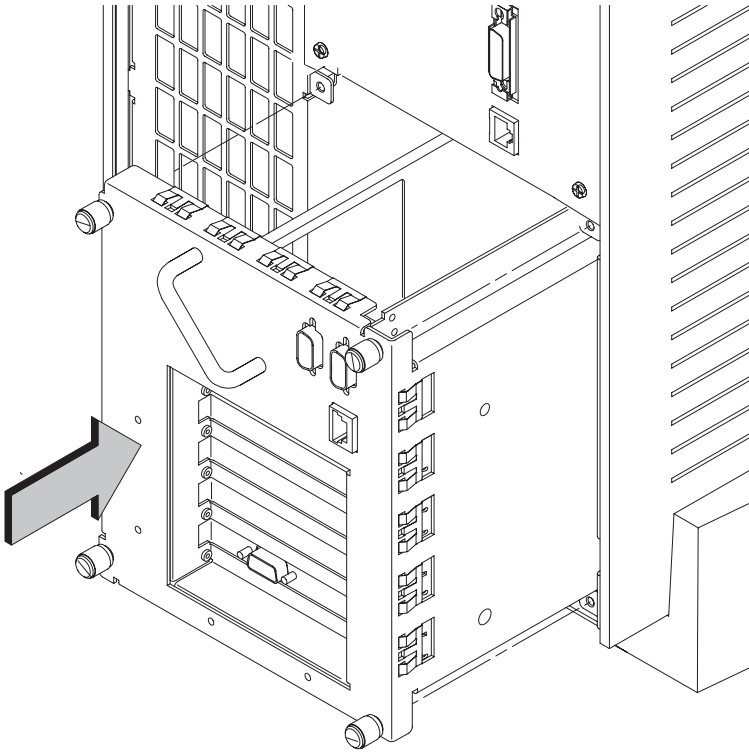

Figure 5-41. Replacing EISA Assembly
11. Slide EISA Assembly into system unit and secure with the four captive screws. See Figure 5-41.